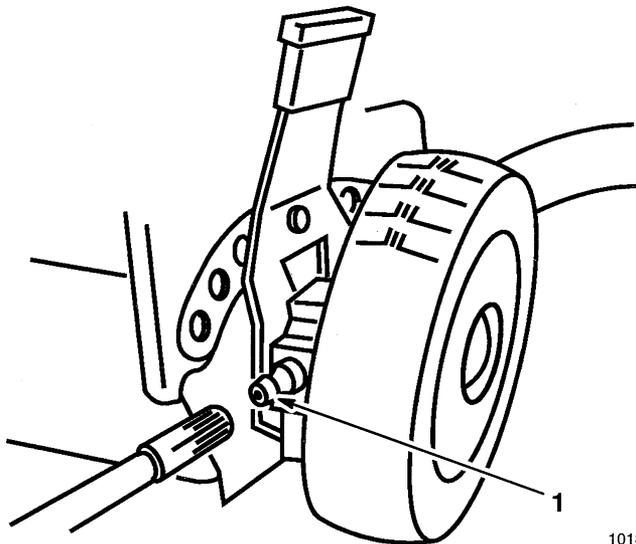

Figure 29
2. Wipe grease fittings on rear height-of-cut adjusters (Fig. 29) with clean rag.